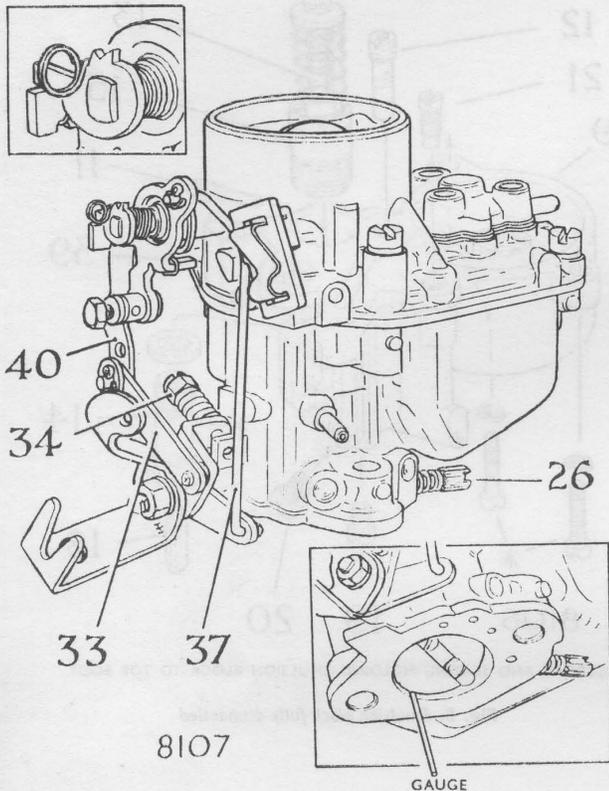

Fig. 6. External linkage and slow running adjustments
ADJUSTMENTS**Slow running** — See Fig. 6
Accelerator Pump Stroke — See Fig. 6
This adjustment is made by altering the position of the link (33) connection in the fuel pump operating lever (40). In Fig. 6 it is shown in the position that gives the shortest pump stroke.
See Fig. 6